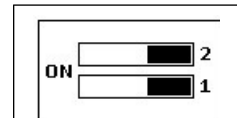
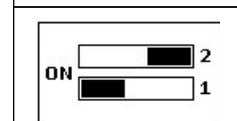

Fig. 12
Fig. 13
- Set DIP1 to ON position, as shown in Figure 12;
- Set DIP2 to OFF position, if installed detection devices are NO type (Fig. 12); Set DIP2 to ON position, if installed detection devices are NC type (Fig. 13);